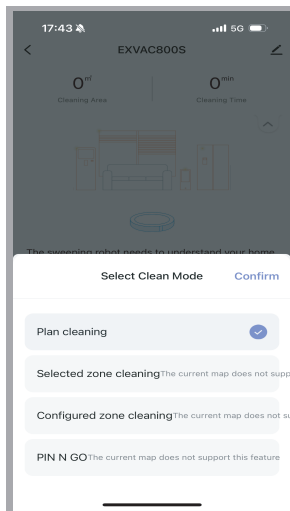

Fig.12
B). Cleaning Mode: expand the menu by **clicking on the down arrow** of Plan cleaning ▾, users have multiple cleaning mode options as Fig.12. Please note: only the robot creates a full map that it can perform other cleaning modes.